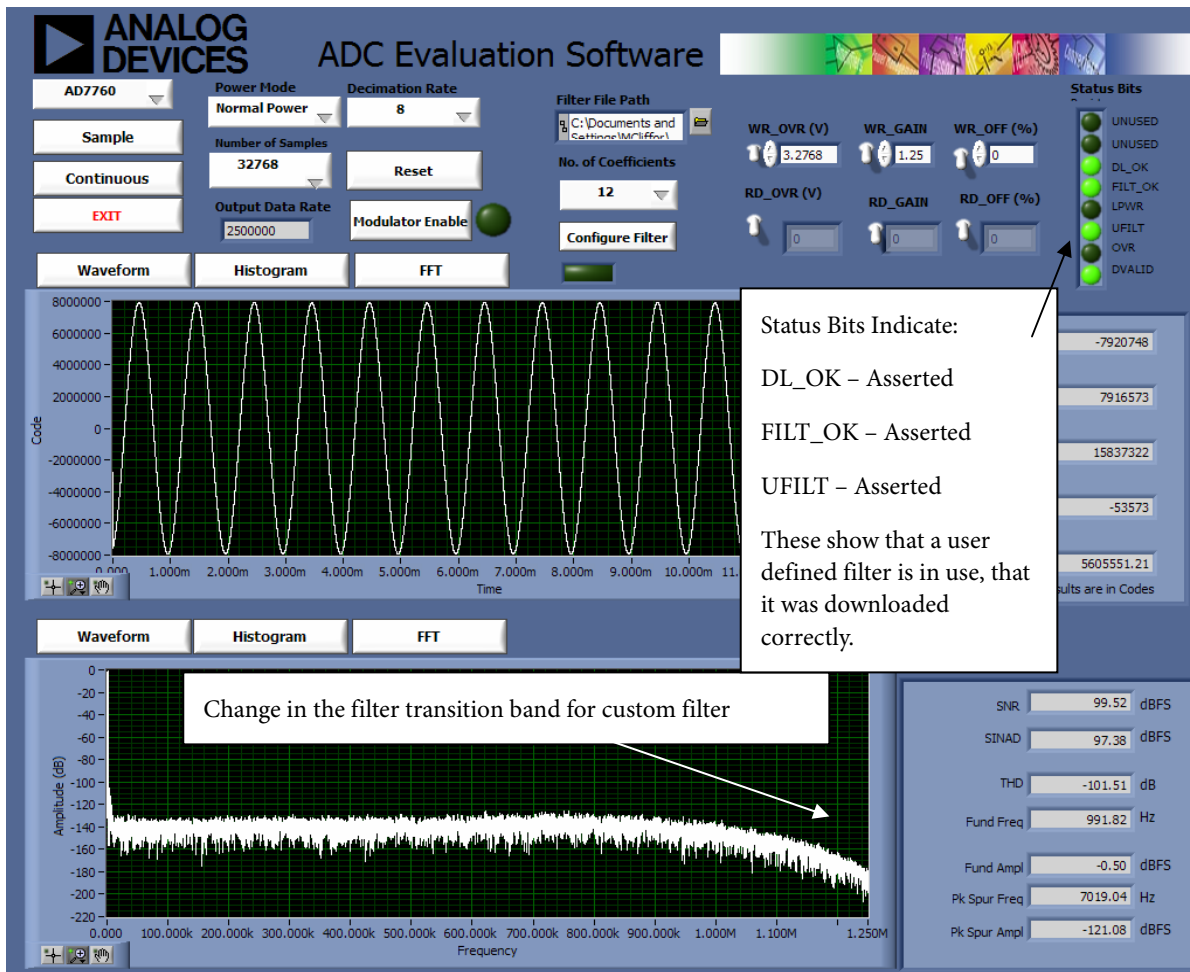

Figure 15. User-defined filter example – implemented on evaluation board. See indicators illuminated, and custom filter transition band.
- The filter example used in the AD7760/2 datasheet will show a slower transition band. The FFT of this filter implementation is shown in Figure 15. As highlighted, the status bits output by the ADC will show if the filter file has been downloaded correctly. The indicators for the DL_OK, FILT_OK and UFILT are all asserted to show a successful filter download.